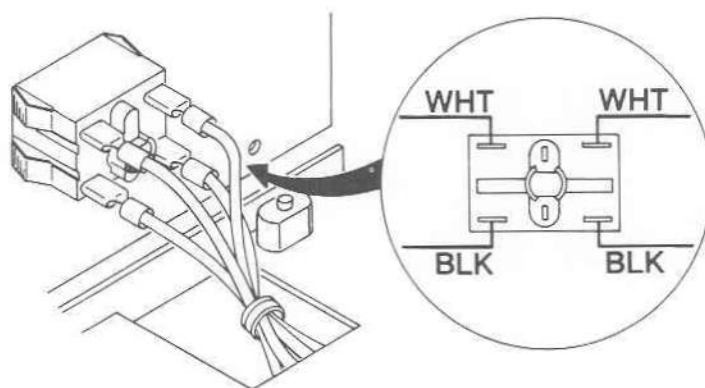

Figure 5.11. Power Switch Wiring Diagram.
- g) Connect the push-on connectors of the 4 switch wires to the switch terminals according to the wiring diagram in Figure 5.11. BE SURE THE WIRES ARE CONNECTED TO THE CORRECT SWITCH TERMINALS AND THE PUSH-ON CONNECTORS ARE PRESSED IN FULLY.